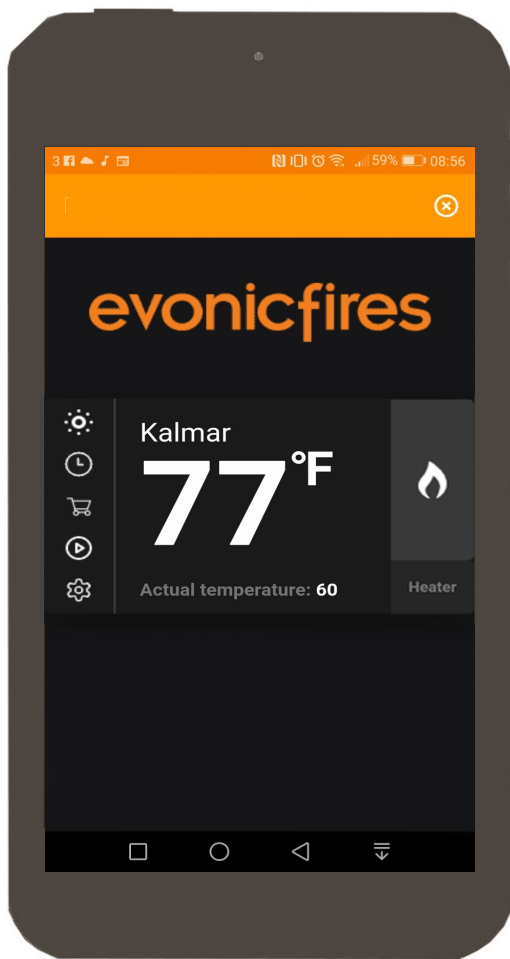

Fig 1.
To connect your e-smart cloud app, please follow steps **1–6** in the manual. You will need to search, locate & download **evonic e-smart cloud**, then follow the connectivity steps to bring you to the home page (fig 1). You can also access the e-smart cloud app through 4G, meaning you can control the basic features of your fire remotely. **Please note: Using the e-smart cloud app through 4G only allows limited functionality—turning the fire ON/OFF, changing animation, and turning the heater ON/OFF.**
4. Once open, in the top right corner search 'e-smart' and the below skill option will appear. **Fig 1.**